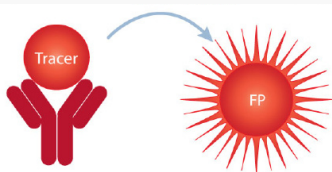

Figure 1. Transcreener[®] FP Assay Principle
The Transcreener[®] FP Assays are a single step, competitive immunoassay for direct detection of nucleotides with a far red fluorescence polarization (FP) readout. The reagents for all of the assays are a far red Tracer bound to a highly-specific monoclonal/polyclonal antibody. Nucleotide diphosphate or monophosphate produced by the target enzyme displaces the tracer from the antibody, leading to increased rotational freedom and results in a decrease in polarization (Figure 1). The use of a far red tracer minimizes interference from fluorescent compounds and light scattering. The Transcreener[®] FP Assays are designed specifically for HTS with a single addition, mix-and-read format.